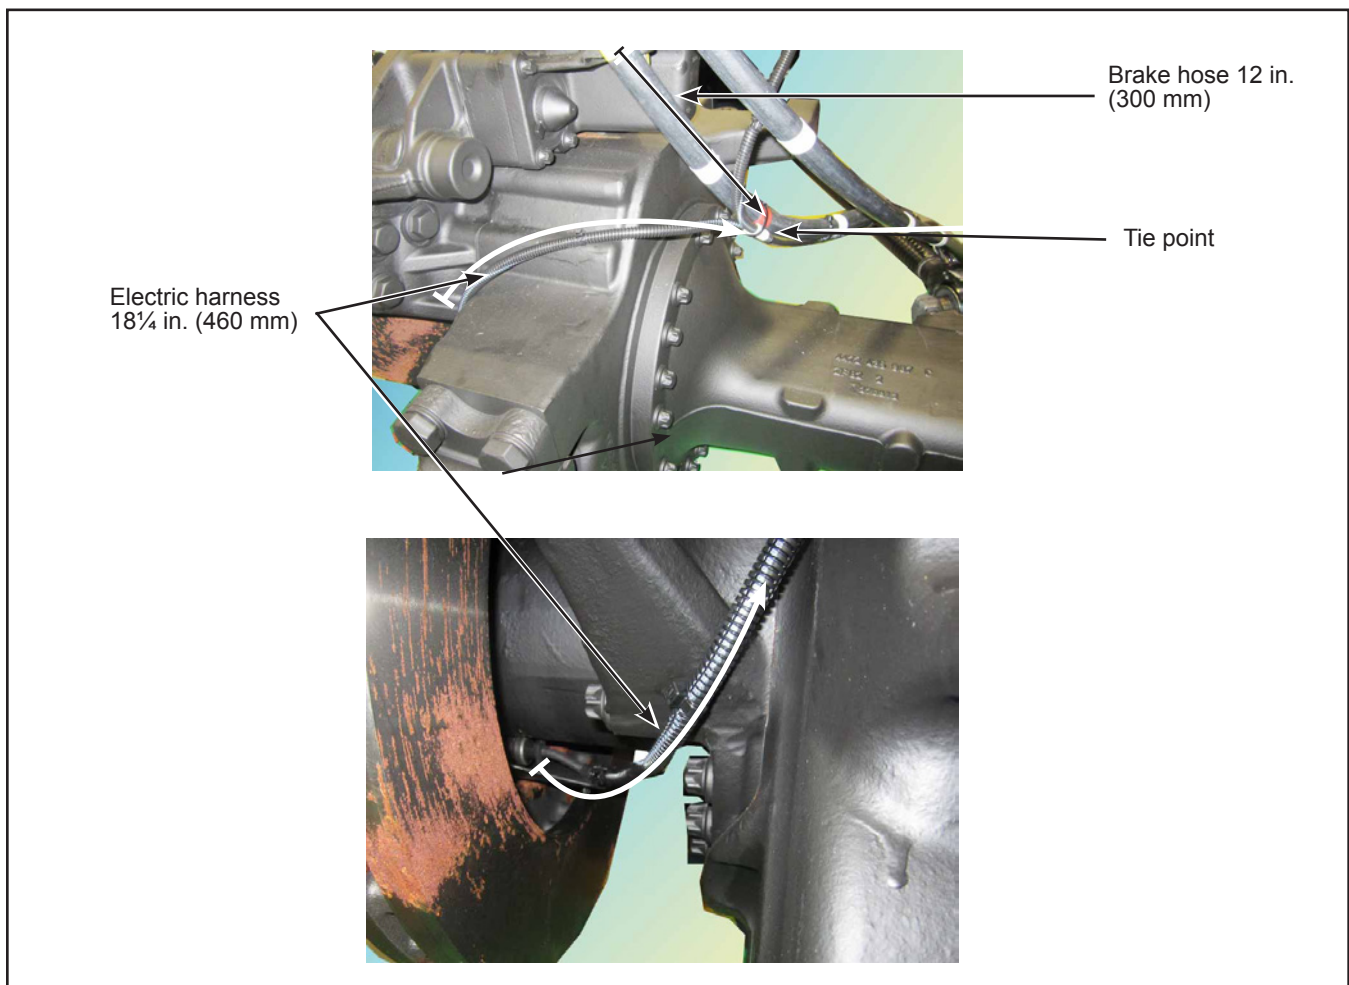

Figure 20 - Driver Side Electrical Harness Routing
- 2.28. Mark the electrical harness at the position indicated in Figure 20.
2.29. Mark the brake hose the position indicated in Figure 20.
2.30. Affix the electrical harness to the brake hose with a tie-wrap at the tie point indicated in Figure 20. If required, affix with other tie wraps.